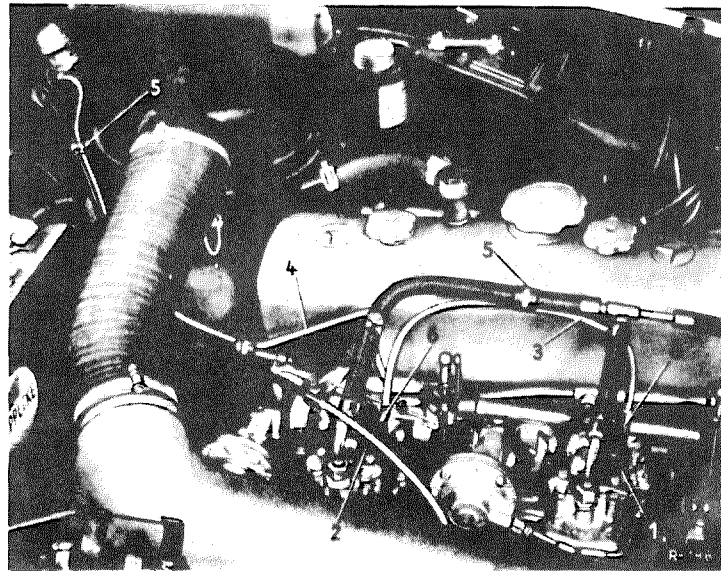

Fig. 07-0/57
2. Connect the two idle cut-out valves by a cable 400 mm long and fasten the cable to the fuel line with a cable holder. Lay a cable 1100 mm long from the idle cut-out valve of the rear carburetor along the hot-start control cable to the cowl and then lay the cable, together with the lead of the flash signal mechanism through the rubber grommet into the interior of the car and to the fuse box. Then fix the cable to the hot-start control cable and the fuel line by four cable holders (Fig. 07-0/57).